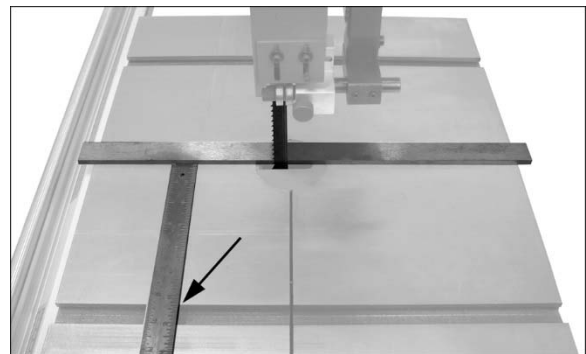

Figure 5-6
7. With blade tension lever in *tension* position, place a long straightedge flush against blade, making sure it evenly contacts both front and back of blade. See Figure 5-6. *Do not deflect blade by pushing into it.*
8. Use a gauge (Figure 5-6) to carefully measure distance from miter slot edge to straight edge. Take measurements at both front and back of table – these should be identical.